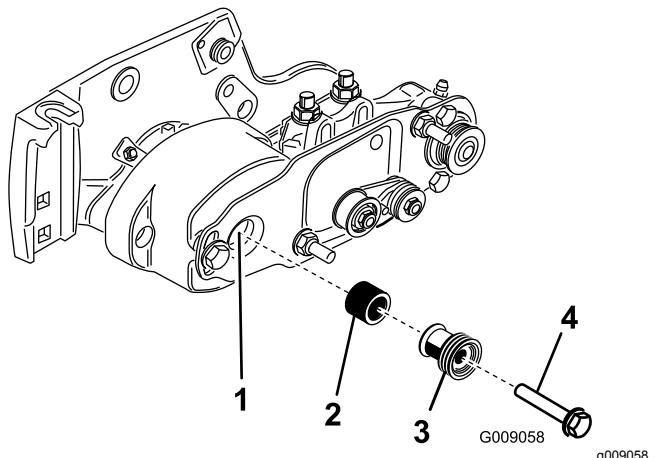

Figure 15
19. Install the spacer onto the shaft in the bearing housing (Figure 15).
20. Insert the drive pulley into the spacer and onto the driveshaft (Figure 15). Make sure that the pulley tabs are positioned in the slot in the drive shaft.
21. Secure the pulley and spacer to the driveshaft with a flange-head bolt (3/8 x 2 inch) (Figure 15).